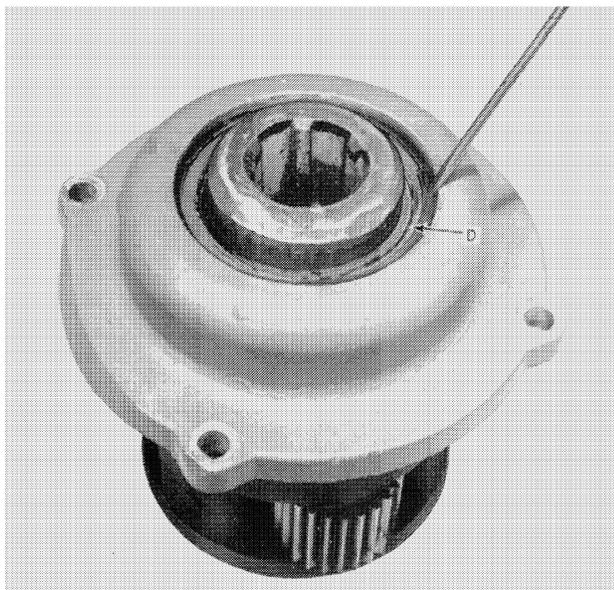

FIGURE 1-16
3. Remove shaft seal, D, Figure 1-16.